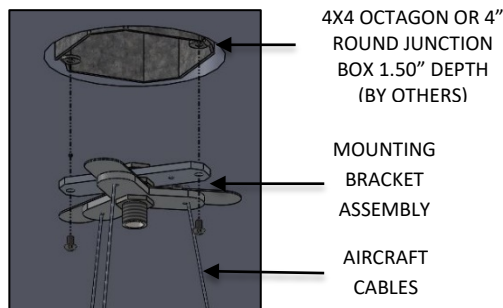

FIG. 24 – MOUNTING BRACKET ASSEMBLY
3. Secure the MOUNTING BRACKET ASSEMBLY along with AIRCRAFT CABLES to the JUNCTION BOX (by others) as shown below in FIG. 24.